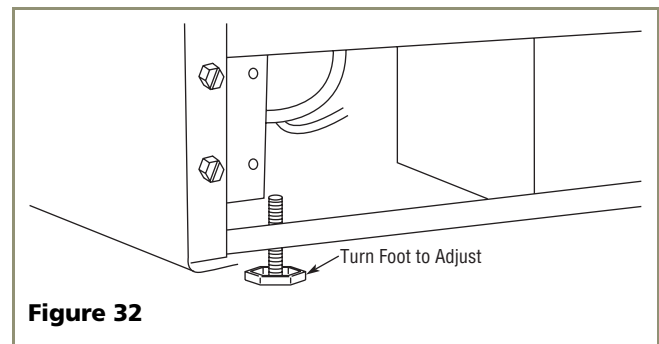

Figure 32
2. If the unit is not level, adjust the feet on the corners of the unit as necessary (see **Figure 32**).